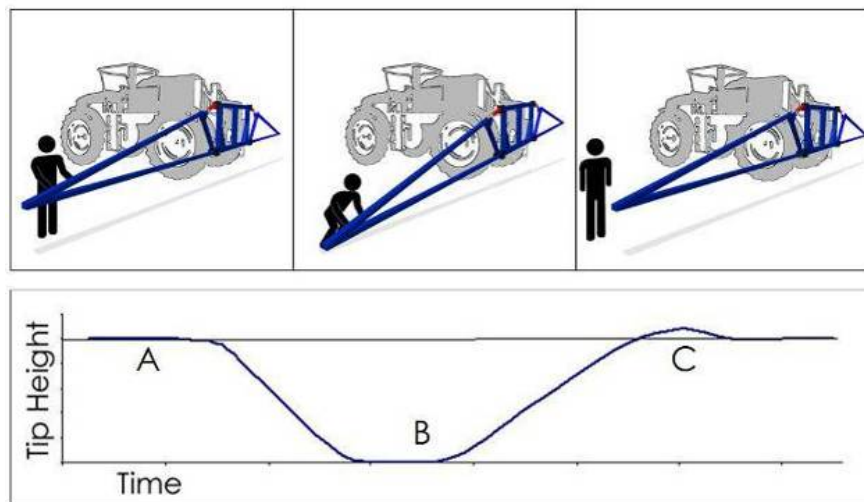

Figure 4: Boom Push Test- Critically Damped
4. Set boom suspension to be critically damped (**Figure 4**). Adjust the boom damper accordingly.